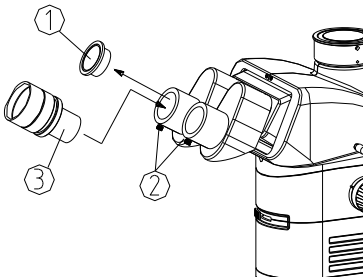

Fig. 7
- 1) Take down the eyepiece tube cover ①.
- 2) Insert the eyepiece ③ into the eyepiece tube, until it touches the bottom. Lock the eyepiece by the lock-screw ② (See Fig. 7)